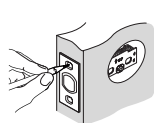

Figure 3c
- Insert Deadbolt Latch Assembly in hole keeping it parallel to face of door. Mark outline and remove latch (Figure 3c).